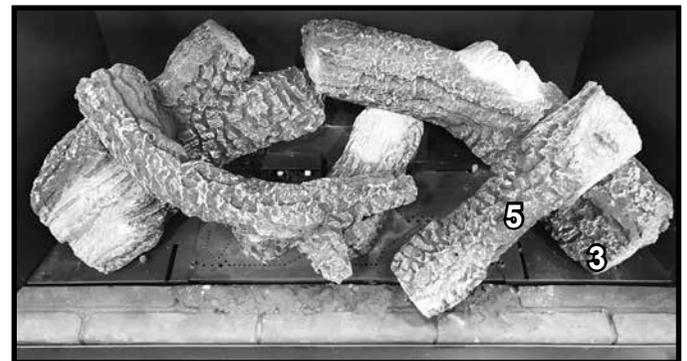

Figure 23 Log #5 Installed
**LOG #5:** The non-burnout end of Log #5 will sit on the flat spot of Log #3. The corner of the other end will sit on the base refractory grout line. See Figure 23.